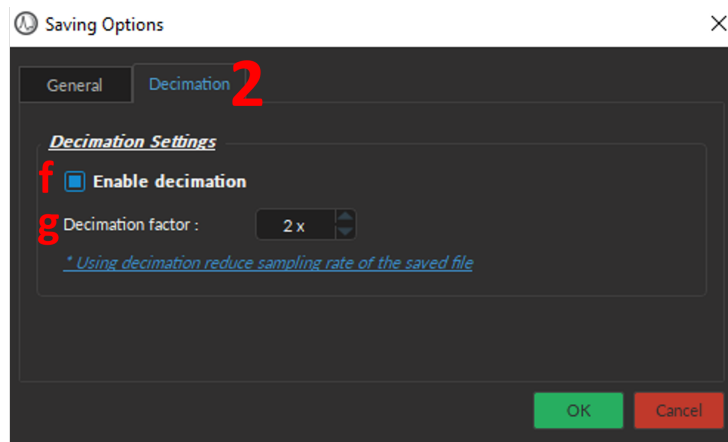

Figure 10.4: Saving Options, Decimation Settings
2. The **Decimation** tab (Fig. 10.4) contains the **Decimation Settings** parameters, including:
- f) The **Enable decimation** checkbox (Fig. 10.4, f) provides a way to reduce the file sizes. This method conserves one point over a number of data points equal to the **Decimation Factor**.
- g) The **Decimation factor** text-box (Fig. 10.4, g) is used to define the number of points saved.¹ Note that decimating a file will reduce the sampling rate of the saved file.